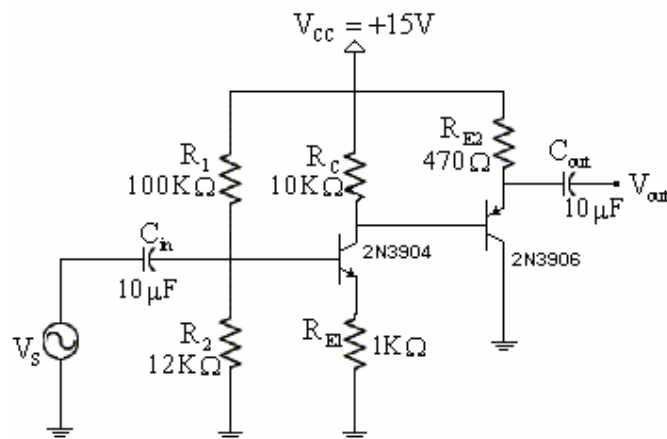

Fig.5: CE and CC Amplifiers
13. To demonstrate the use of a common collector amplifier stage to buffer a low impedance load from a high output resistance of the common emitter amplifier, connect the circuit shown in Figure 5:
14. Repeat step (12) for the circuit of Figure 5. Set the oscilloscope to the AC coupling.